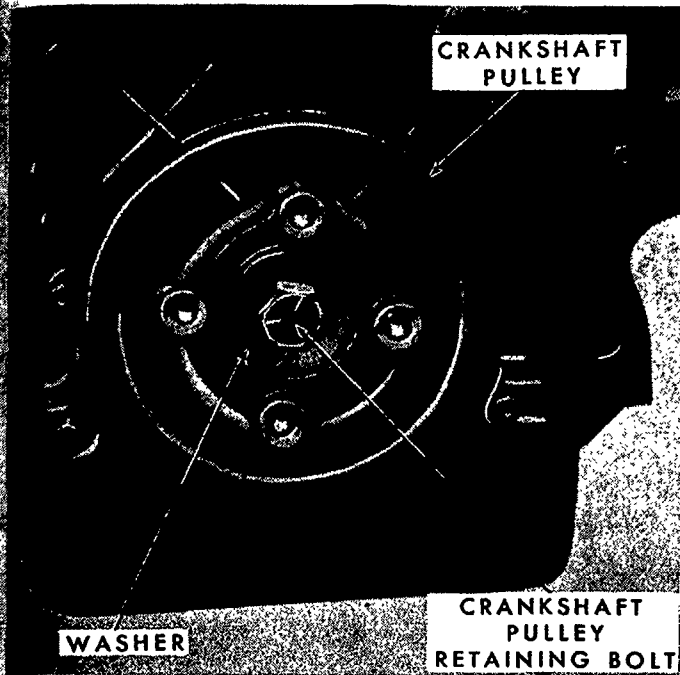
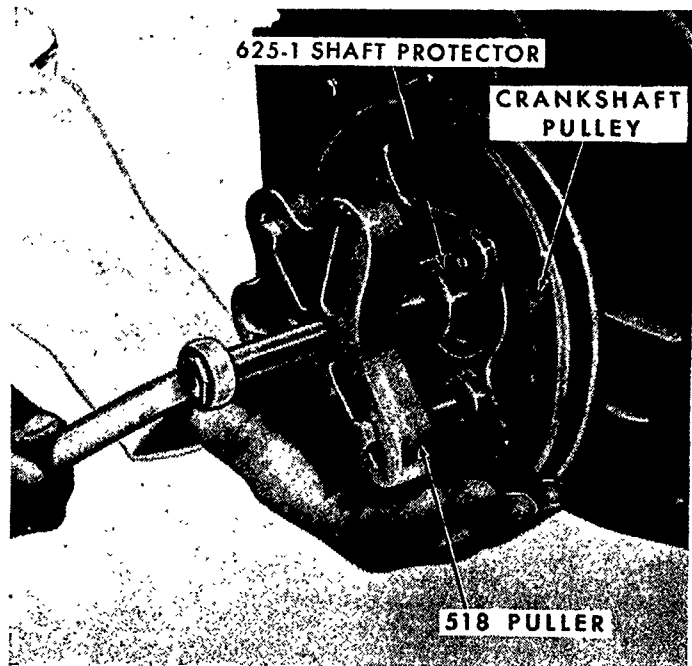

Figure 24
Figure 25
1. Remove the fan belt. Remove the bolt and washer from the crankshaft pulley, Figure 24, using Puller No. 518 and Shaft Protector No. 625-1, as shown in Figure 25. To use the puller for this purpose, $\frac{7}{16}$ in. $\times$ 14 UNC bolts have to be used and the slots in the puller enlarged.